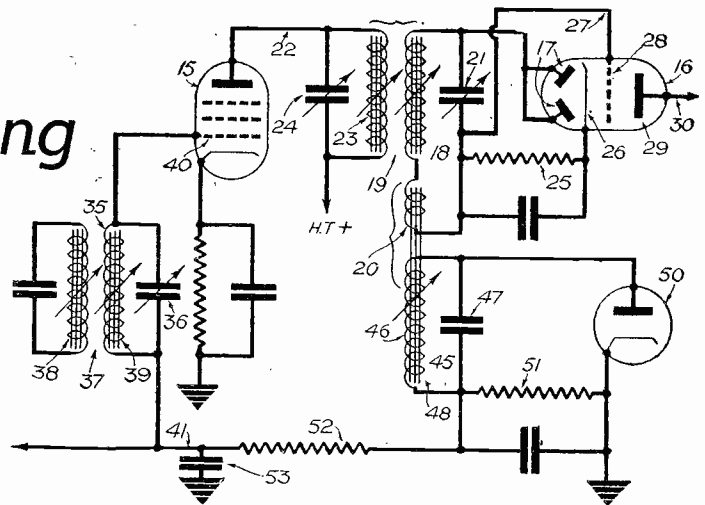
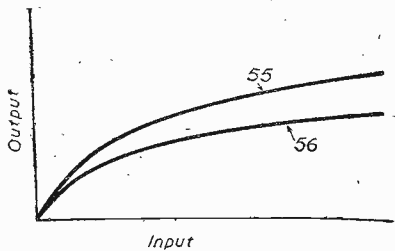

Fig. 3.—An intermediate-frequency amplifier circuit using permeability tuning.
Fig. 4.—The improvement in A.V.C. characteristics is shown by these two curves.
Referring now to Fig. 3, an intermediate-frequency amplifier circuit is shown in which a valve 15 is provided as the last intermediate-frequency amplifier stage preceding a second detector valve 16 in the signal channel of the receiver. The detector is of the diode rectifier type comprising a pair of diode electrodes 17, connected to the secondary 18 of I.F. coupling transformer 19, which is connected in series with a coupling coil 20, and is tuned by a shunt adjustable capacitor 21.
A.V.C. characteristic than is normally provided, as indicated in the curves of Fig. 4, in which the curve 55 is a response curve for a normal A.V.C. connection, whereas the curve 56 represents the A.V.C. control characteristic of the circuit of Fig. 3, clearly showing that the A.V.C. characteristic is much flatter in the present system.